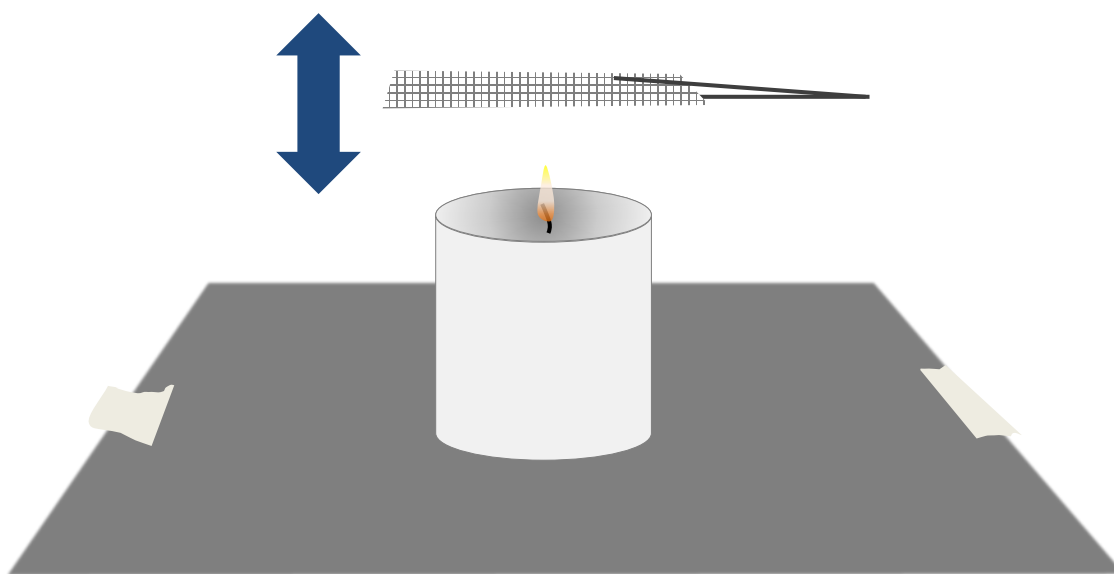

Figure 6: Steps 6 – 8 reference. Side view of work surface.
8. Repeat Step 6 and 7 three more times noting the behavior and shape of the flame (Figure 6).